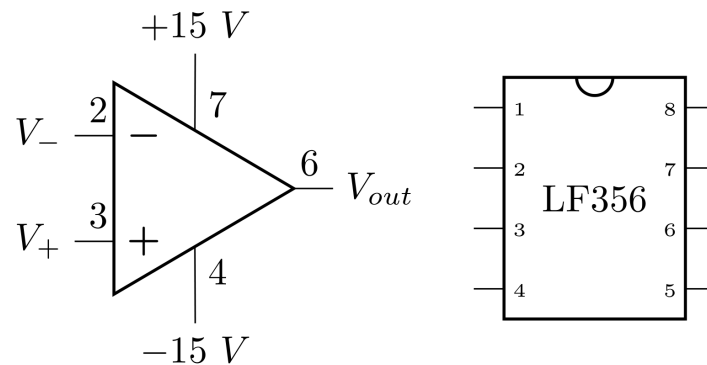

Figure 4: LF356 schematic and pin-out
1. This experiment will use both +15 V and -15 V to power the LF356 op-amp. Make sure you **un-plug** the DC supplies while wiring your op-amp (you may find it useful to plug them into their own power strip). Everyone makes mistakes in wiring-up circuits. You should always check your circuit over before applying power. Figure 4 shows a pin-out for the LF356 chip. Familiarize yourself with the layout. The following procedure will help you wire up a circuit accurately: